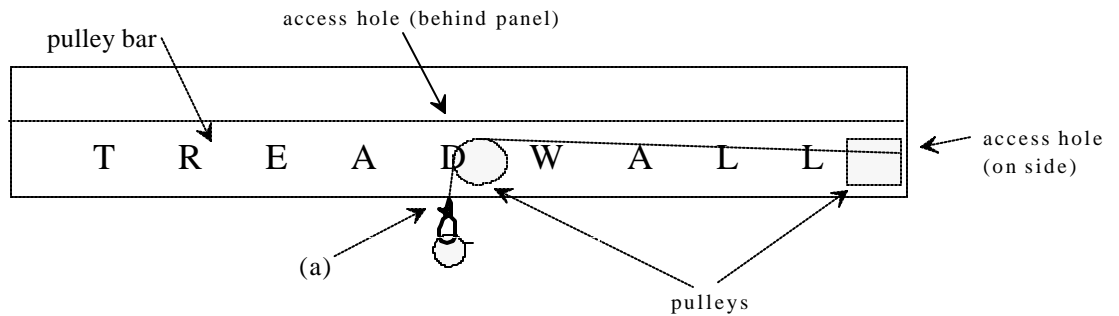
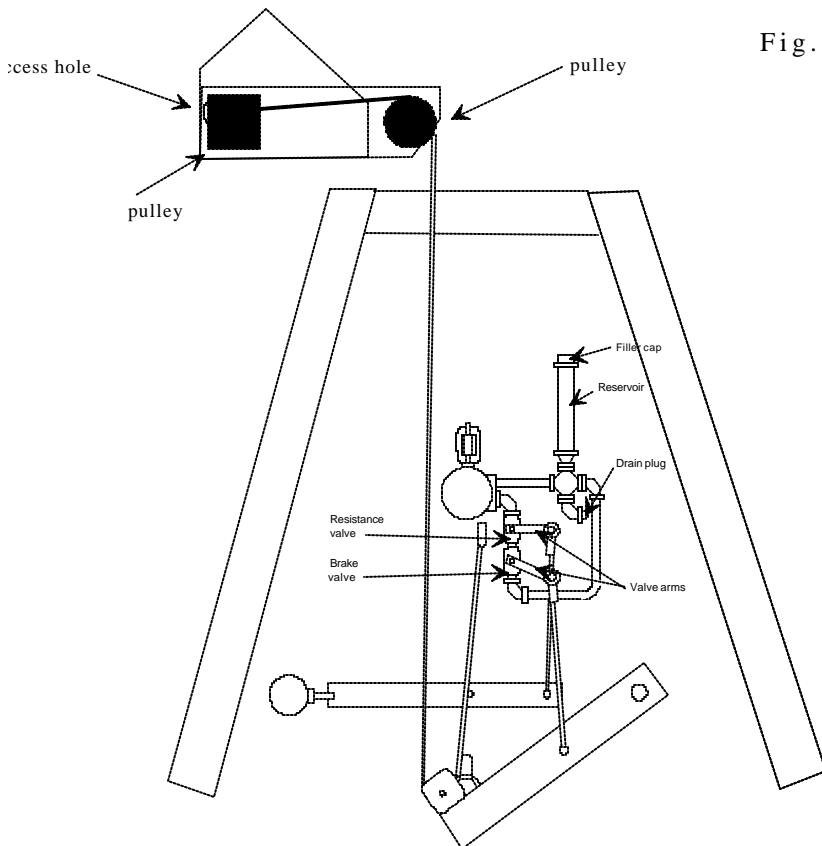

Fig. 1
Fig. 2
**Fig. 1** shows the upper pulley bar from the front. Above the middle pulley there is an access hole that can be reached from the top of the machine, behind the pulley bar shroud as shown. Another access hole is on the right side of the pulley bar and its location is shown in both pictures.
Take the new line and pass it up through the pulley bar at point (a) and straight up through the access hole. Tie a small knot in this end of the line. Now take your coathanger tool and push it into the side access hole and over the center pulley until you can hook the control line and pull it over to the right and out of the hole. It is then an easy job to work the line back over the other pulley and into the frame pulley as shown in **Fig. 2**
Run the line as shown in Fig. 2 and tie off at the welded loop. When the brake lever is at its resting position, the ring on the control line should be just an inch or two under the pulley bar as shown in Fig. 1.